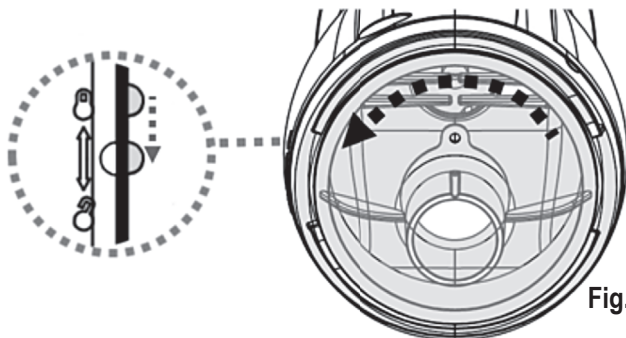

Fig.1
- 2) Hold the electric vacuum body and turn the canopy anticlockwise until the white marking on the canopy reaches the lock-unlock marking. (**Fig.1**) Detach the canopy and remove the filter bag / filter cage from the electric vacuum